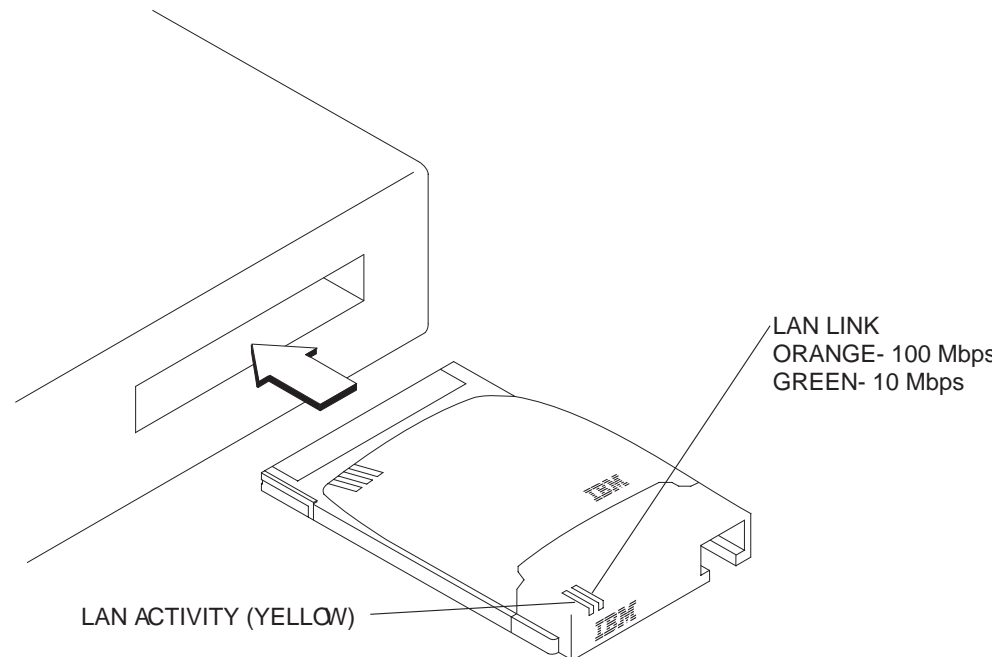

Figure 1. Inserting the adapter into the computer
1. Grasp the EtherJet CardBus Ready Port Adapter by the edges with the IBM label facing upward and the wide PC Card connector next to the insertion slot, as shown in Figure 1.